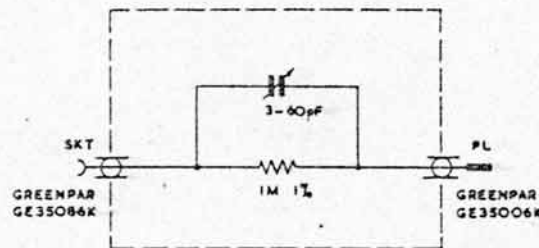

Fig. 6. Capacitance Equaliser Pad
10. Capacitance equaliser pad (see Fig. 6).